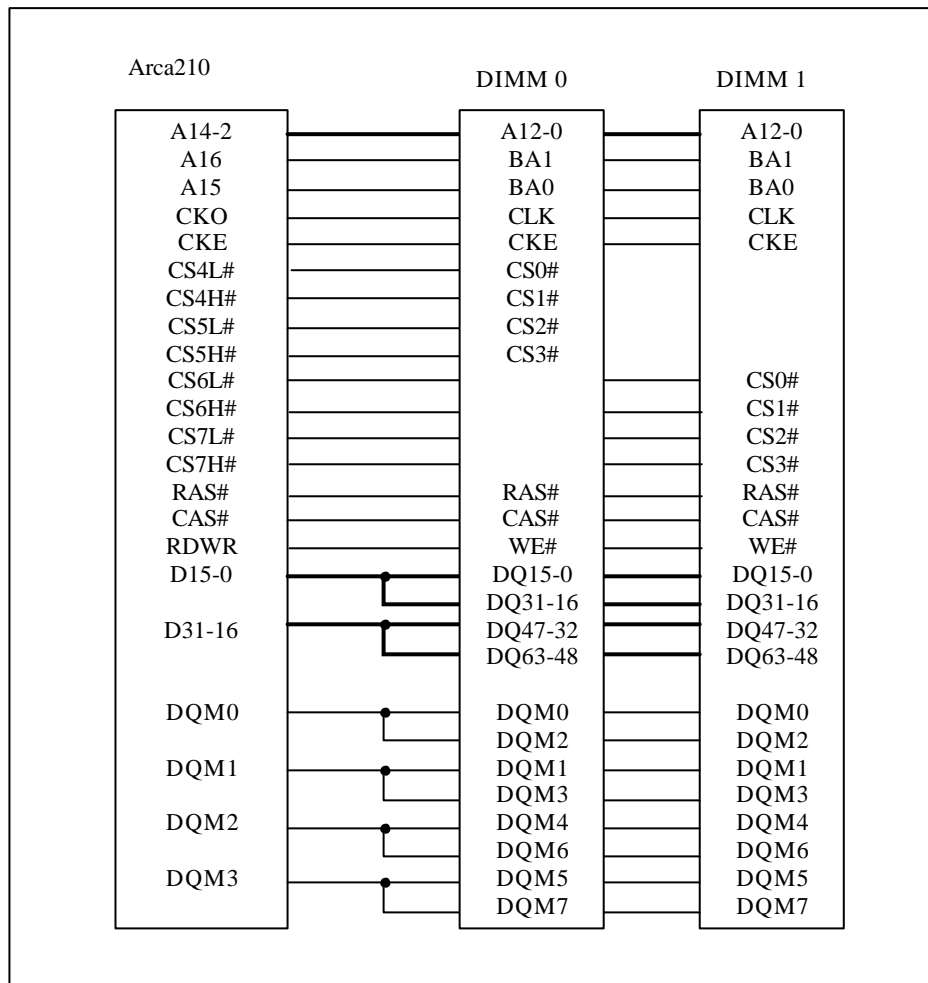

Figure 3-19 Example of Synchronous DRAM 168-pin DIMMs Connection
- In system using 168-pin DIMMs, 4 or 8 chip selects correspond to 2 DIMM cards. One or two CS# signals can be selected for each bank according to CS bit of MCR. When one CS# signal is used, CSnL# are asserted during access and CSnH# are ignored (n = 4 to 7). When two CS# signals are used, the CSnH# (n = 4 to 7) is asserted when access upper half of bank n, the CSnL# (n = 4 to 7) is asserted when access lower half of bank n. Figure 3-19 shows an example of 168-pin DIMMs connection.